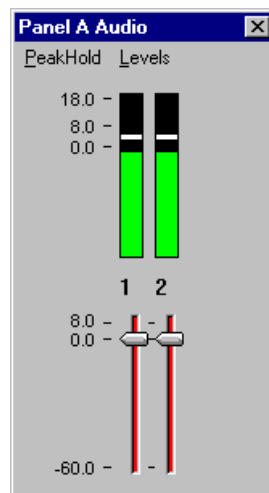

Figure 44. Audio Monitor dialog box
1. Choose **Window | Audio Monitor**. The Audio dialog box appears, as shown in Figure 44. There are only two channels in this example, but up to sixteen are possible.